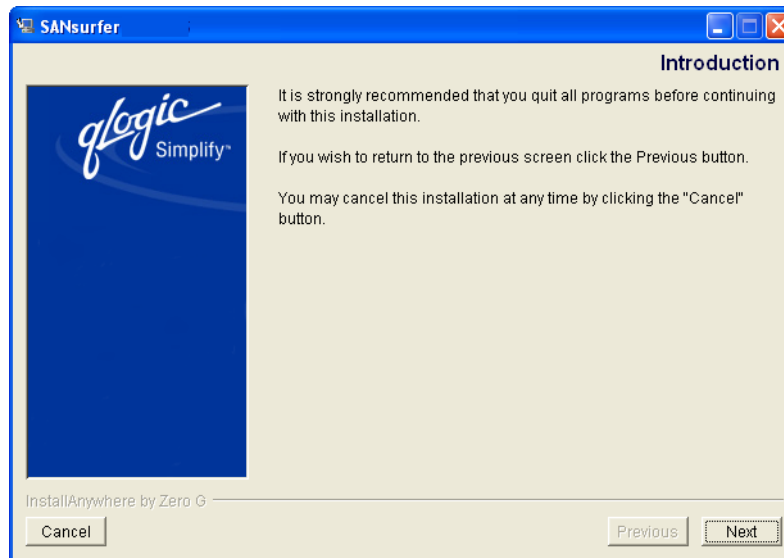

Figure 5-1. Installation Introduction Dialog Box
2. InstallAnywhere prepares to install SANsurfer. The installation **Introduction** dialog box displays (see figure 5-1). Click **Next**.